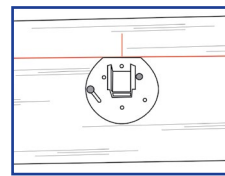

Fig 1
Step 1: At one end of the formboard, mark a point equal to one half of slab thickness – 32 mm (e.g. for 150 slab, mark the point $150/2 = 75 - 32 = 43$ mm) down from the top of the formboard. Repeat at other end of formboard. Join both marks with a tight string line. Mark position of the first dowel from the end of formboard, then mark the position of subsequent dowels along the string line. Place the first Nailing Plate at the first position and nail in place – 2 nails diagonally opposite each other should be adequate. Locate and nail in place subsequent nailing plates (Fig 1).